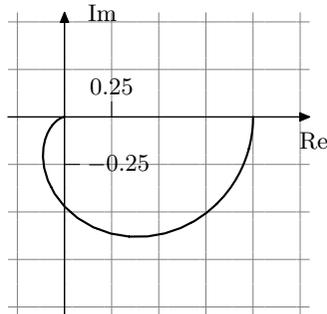
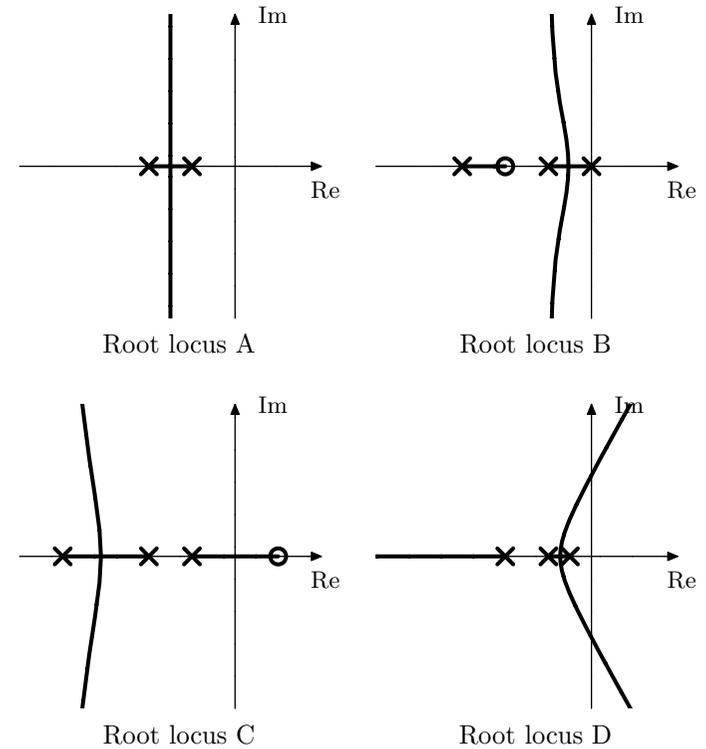

Figure 3.19a
Figure 3.19b. Starting points ( $K = 0$ ) are marked  $\times$ , and end points ( $K \rightarrow \infty$ ) are marked  $\circ$ . All diagrams have equal scaling.
- 3.19 The Nyquist curve for the system  $G(s) = \frac{B(s)}{A(s)}$  can be seen in Figure 3.19a. Determine which one of the root loci in Figure 3.19b that matches